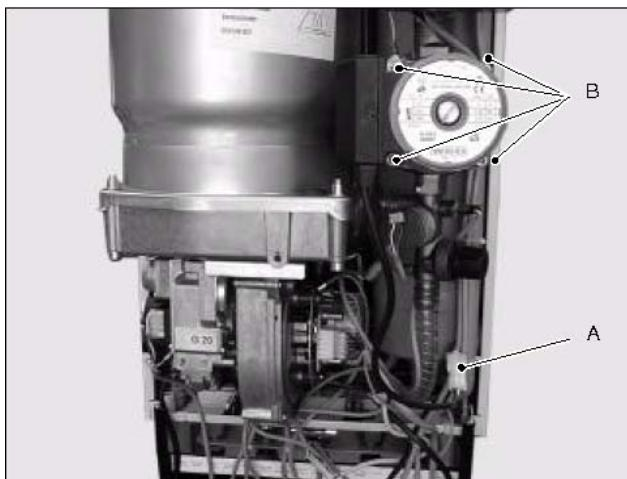

Fig. 15
- 4 Disconnect the connector A (Fig. 15).